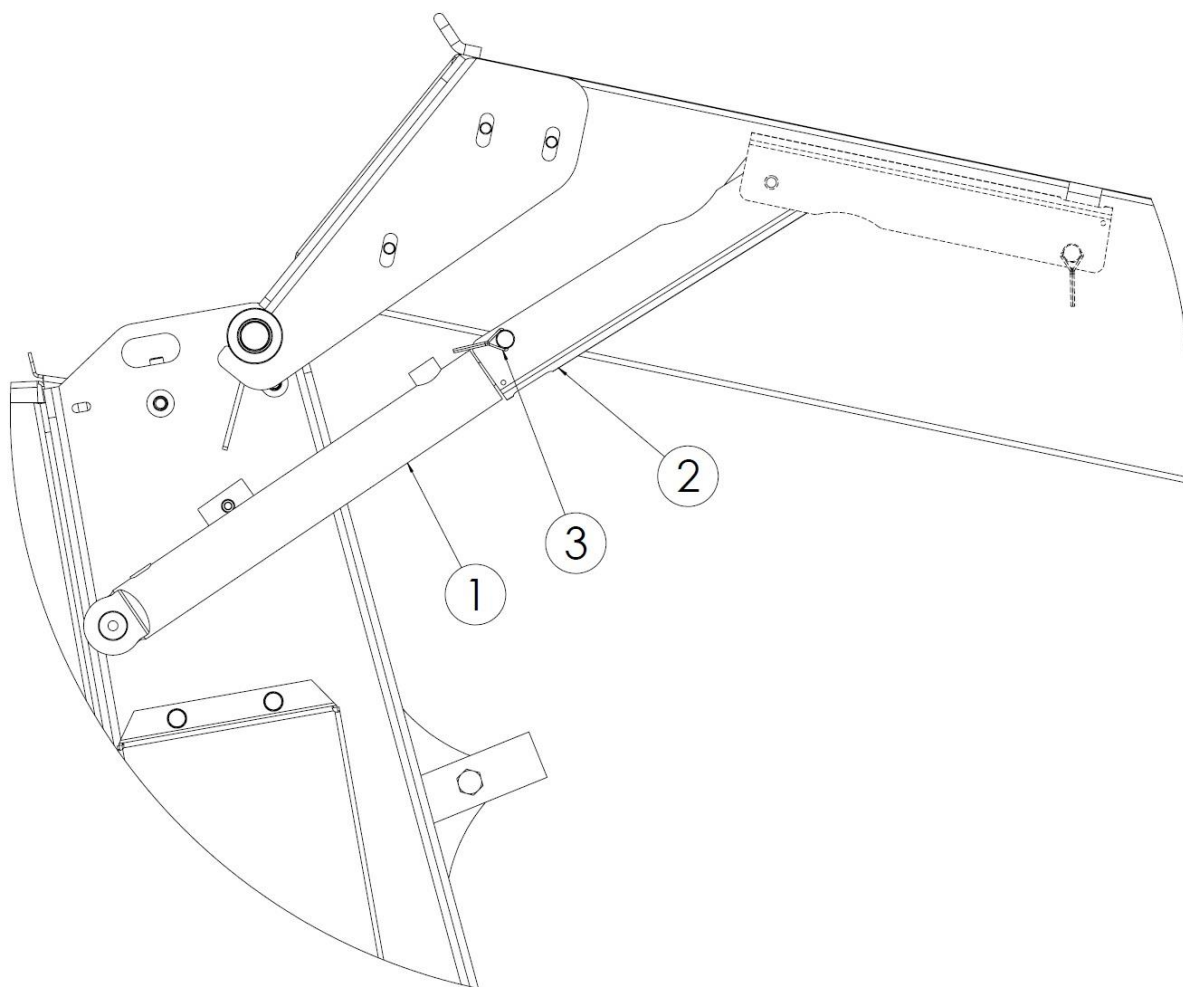

Figure 41. Locks for securing the cylinders
Secure the lifted spreader rear flap in its upper position, as shown in Fig. 41. On both sides of the spreader, use clamps (2) fixed to the upper pins of the hydraulic cylinders (1) to secure them. Move the clamps (2) fully upwards so that they embrace the stretched cylinder rods. Lock them with locking pins (3) against unauthorised cover closing. Unlock the clamps of the cover after completing the planned activities.